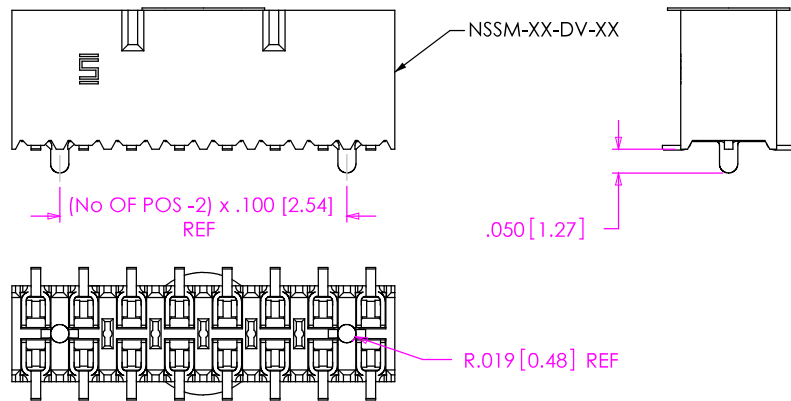

FIGURE 3
- A: ALIGNMENT PIN (SEE FIG. 3, SHT 2) (MOLDED: USE NSSM-XX-DV-XX, 4 POS MIN)